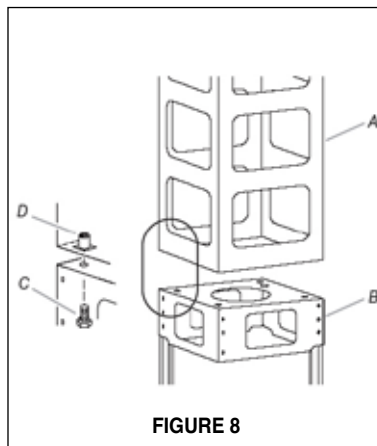

FIGURE 8
5. If using the **High Ceiling Chimney Kit**, remove the CHIMNEY COVER from the CHIMNEY EXTENSION (A in FIGURE 8). Position the CHIMNEY EXTENSION over the CHIMNEY SUPPORT (B in FIGURE 8) so that the outside edges and the electrical holes line up. Attach the CHIMNEY EXTENSION to the CHIMNEY SUPPORT using the 4 bolts (C in FIGURE 8). Tighten bolts securely.